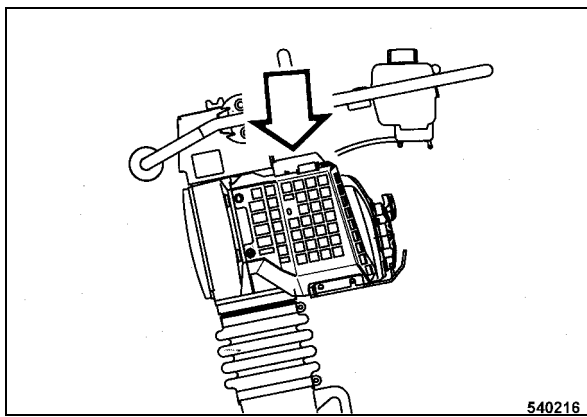

Fig. 42
- Remove the top engine cover (Fig. 42).